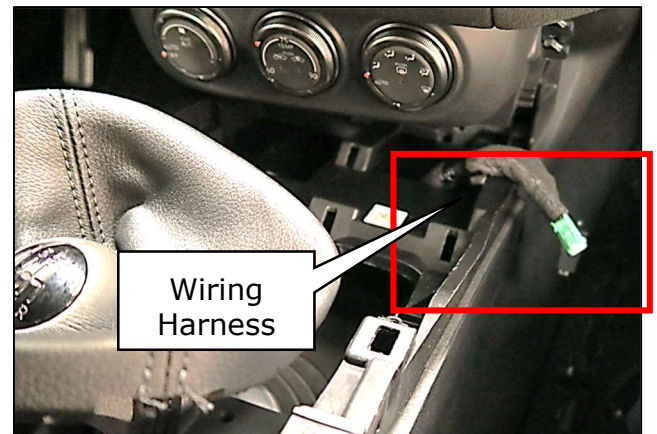
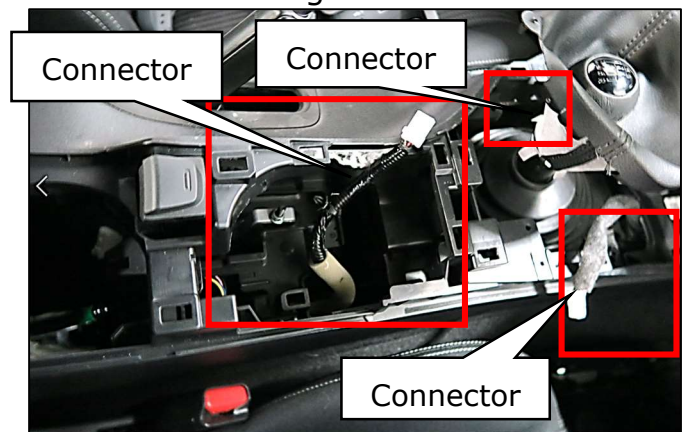

Figure 35
Figure 36
32. Move the wiring harness connectors upward through the openings in the center console as shown in Figure 35 and Figure 36.